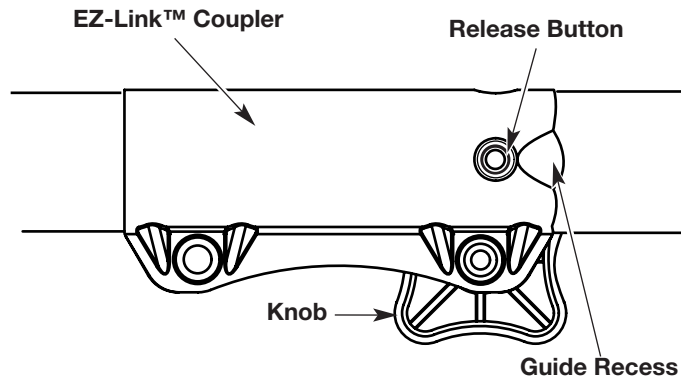

Fig. 23
2. Press and hold the release button (Fig. 23).
NOTE: Aligning the release button with the guide recess will help installation (Fig. 23).